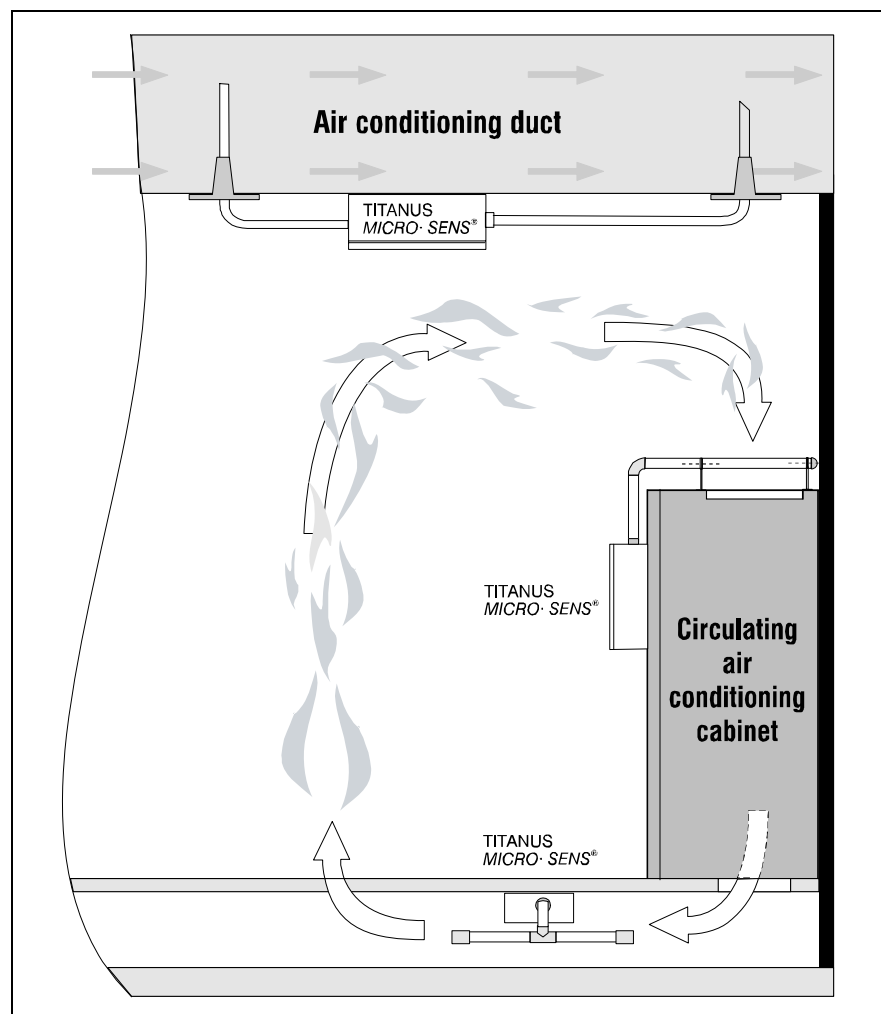

Fig. 1.2: Monitoring options for a circulating air conditioning cabinet or an air conditioning duct (principle representation)
- for air conditioning cabinets (see Fig. 1.2),